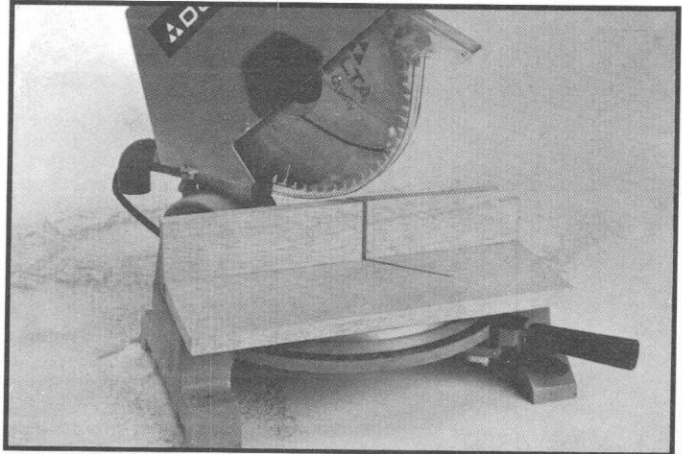

Fig. 6
6. If the auxiliary fence and table is to be used for cutting 45 degree right or left miters, an additional fence and table should be constructed and a 45 degree right hand miter cut made in the fence and table, as shown in Fig. 6.